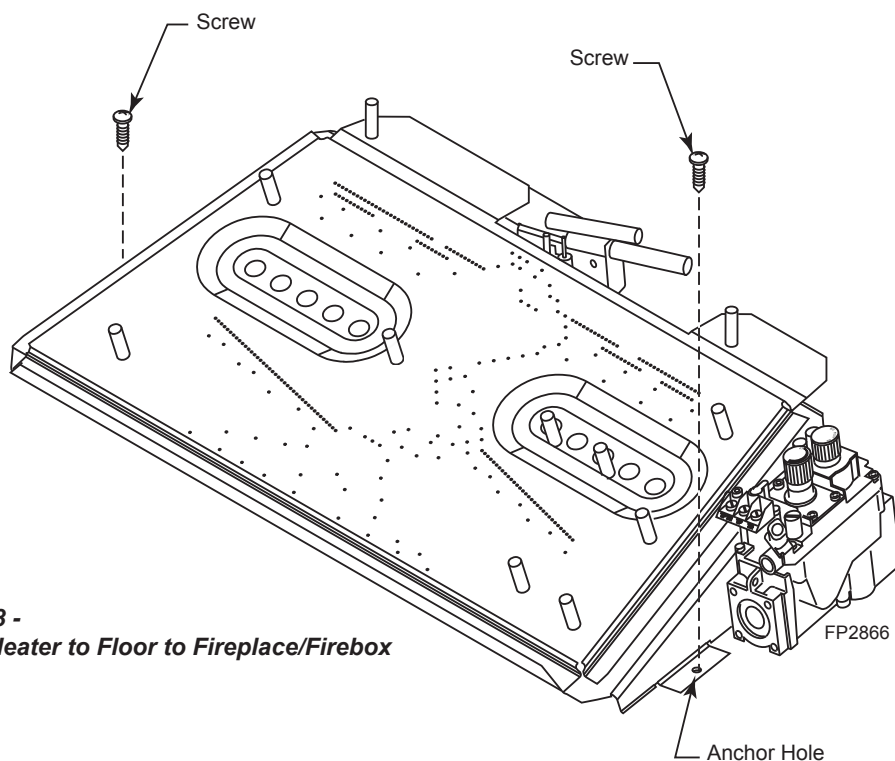

Figure 13 -
2. Anchor holes are located on the right and left sides of the unit. After centering the burner correctly, mark the hole positions on the fireplace/firebox floor. Drill two (2) 5/32" diameter holes approximately 1½" deep.
3. Anchor the burner to the fireplace/firebox floor using the screws provided. *Figure 13*